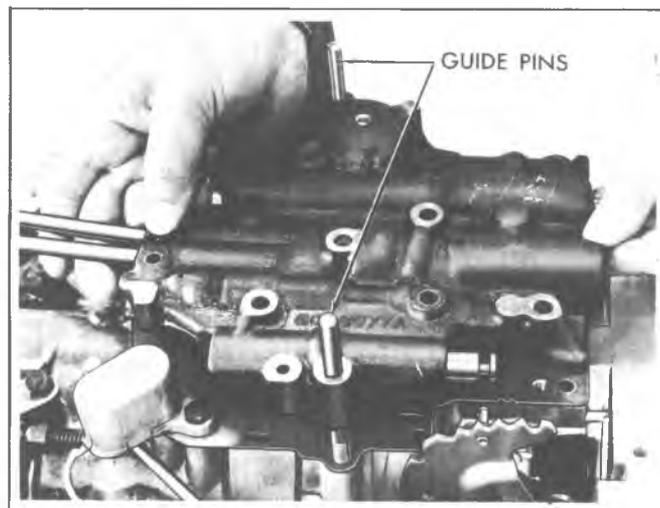

Fig. 7A-184C--Installing Control Valve Assembly and Governor Pipes
- the center of the transmission). See Figure 7A-183C).
3. Install control valve assembly and governor pipes on transmission, while carefully aligning the governor feed pipe over the governor screen (Fig. 7A-184C). Make certain gasket and spacer do not become mispositioned.